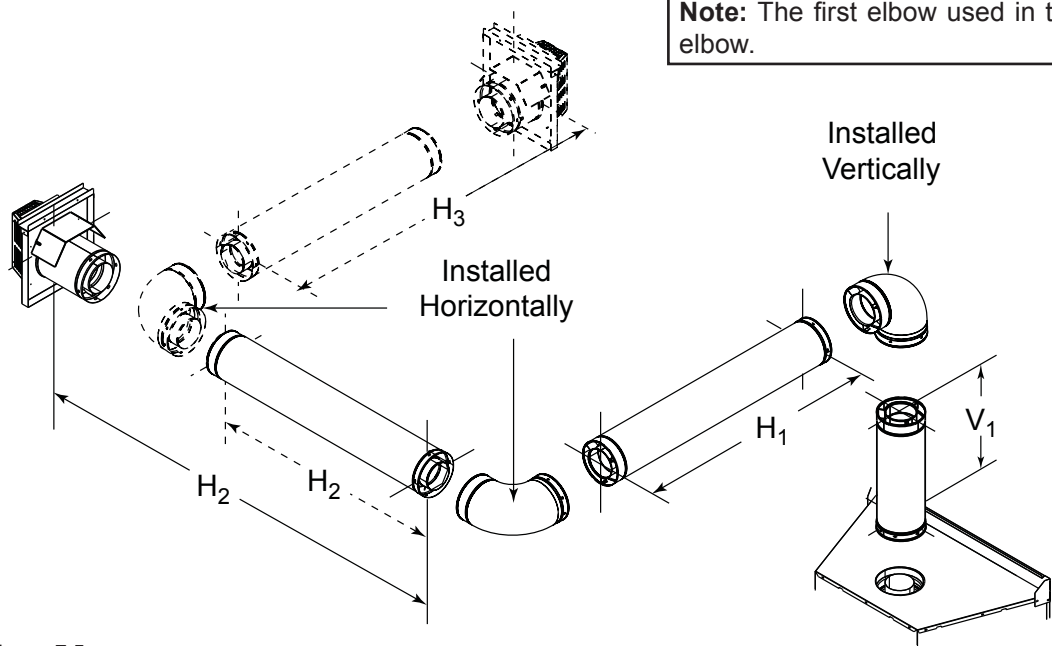

Figure 7.5
- A maximum of three 90° elbows (or six 45° elbows) may be used in any vent configuration. Some elbows may be installed horizontally. See Figure 7.5.